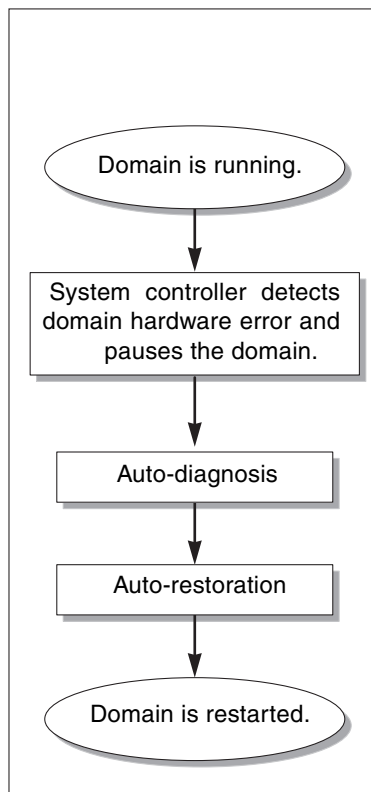

FIGURE 7-1 Auto Diagnosis and Domain Recovery Process
Depending on the type of hardware errors that occur and the diagnostic controls that are set, the system controller performs certain diagnosis and domain recovery steps, as FIGURE 7-1 shows. The firmware includes an *auto-diagnosis* (AD) engine, which detects and diagnoses hardware errors that affect the availability of a platform and its domains.
The following summary describes the process shown in FIGURE 7-1: